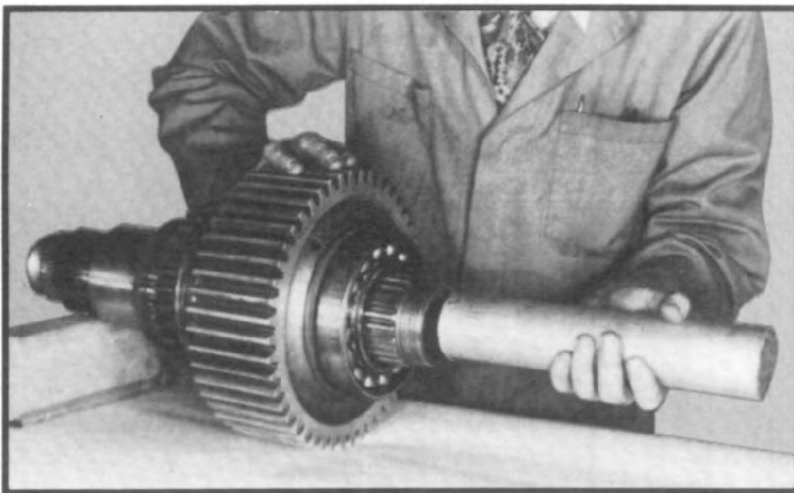

Fig. 73
3.21 Disassemble the shaft assembly by placing the front of the shaft on a block of wood for support. Tap with a soft hammer on the rear of the shaft, pushing the shaft through the direct drive gear and pushing the rear bearing and thrust washer from the shaft. (See fig. 73.)